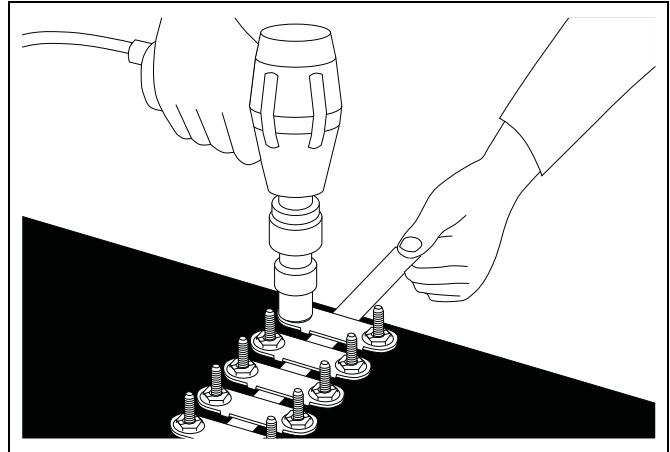

Figure 6O
9. Pull tape tight and hold in position by tightening a fastener at each end. Then tighten all other plates. (See Figure 6O.)